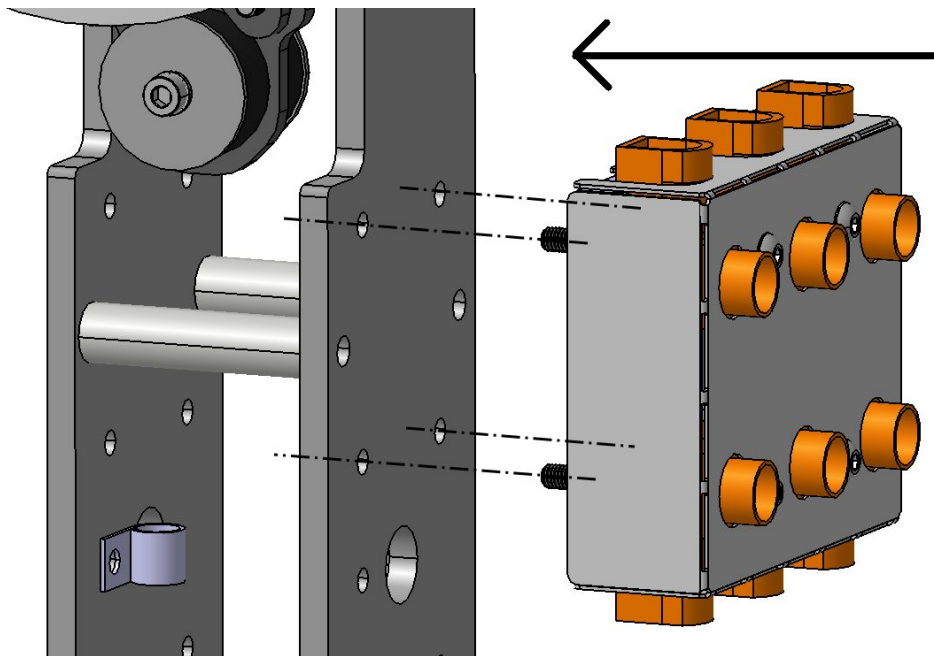

Fig 4.26: Insert the no-solder board on the support plate
- ❑ Place the no-solder board (#KPAD) on any side of the support plate, aligning with the any of the four-hole feature indicated in fig. 4.26. However, it is recommended putting it as close to the motor as possible: